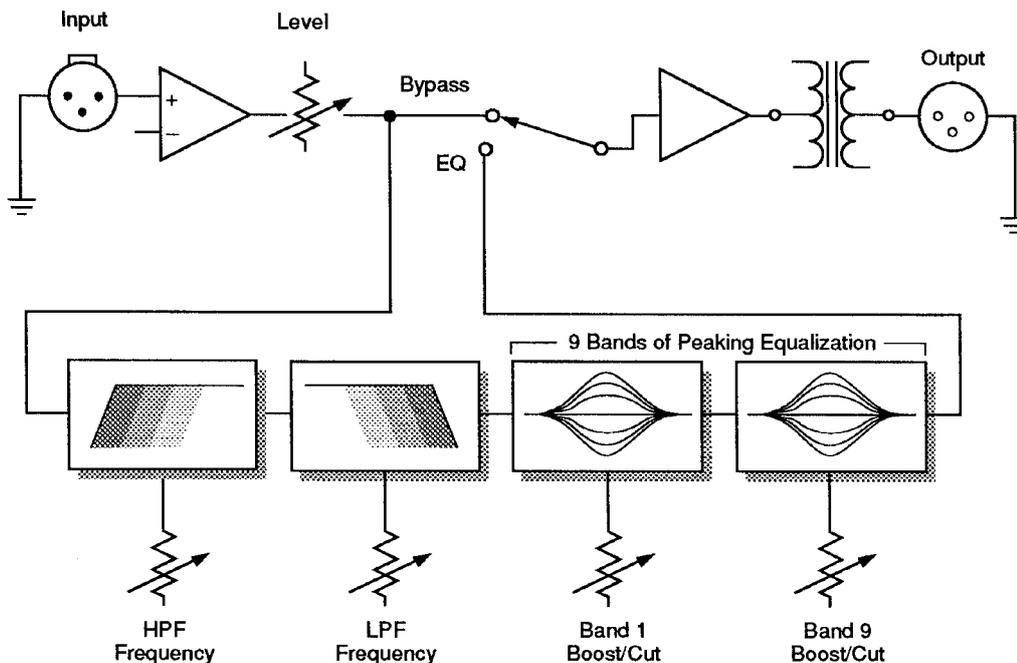

Figure 7-11. Graphic equalizer block diagram
**NOTE:** In most single-ended, inter-stage amplifiers, the signal source is actually connected to the '-' (inverting) input of the amplifier. This reverses the polarity of the signal, but allows gain and distortion controlling feedback to be more easily routed in the circuit. The reason the output is not reversed in polarity is that either (A) there are an even number of amplifier stages so the polarity reversals cancel out, or (B) the input or output terminals are internally reversed in polarity.
**EXAMPLE 2.** Figure 7-11 (next page) shows a block diagram of a graphic equalizer.